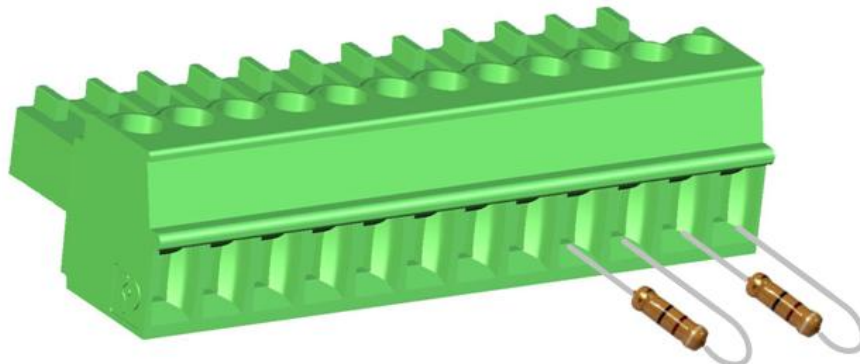

Figure 17c
- If any of the Door Contacts are not being used, that pair of connectors must be connected with one of the supplied terminating resistors. Please wire resistors as show in figure 17c so as to avoid any or the resistor leads touching.